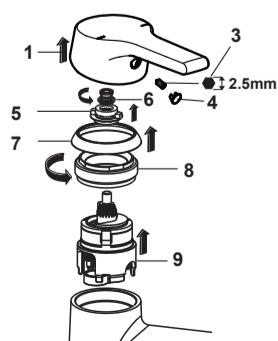

Figure 5 Single lever cartridge assembly B0165
Refer to Figure 5. Lift off block cap (4). Unscrew grub screw (3) and lift off handle.
Remove the handle as previously described and pull off shroud. (Figure 5)